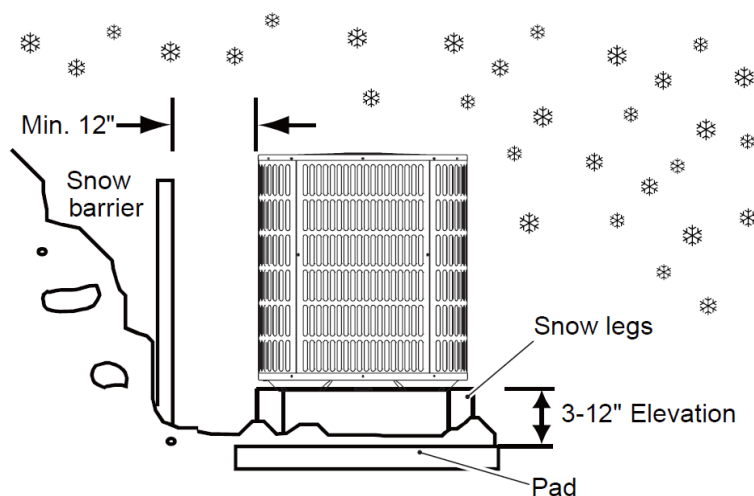

Figure 2.4
- Units should be elevated 3-12 inches above the pad or rooftop, depending on local weather. This additional height will allow drainage of snow and ice melted during defrost cycle prior to its refreezing. Ensure that drain holes in unit base pan are not obstructed, preventing drainage of defrost water (Fig. 2.4).